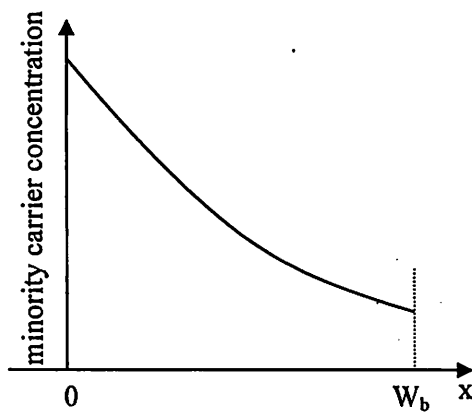

Figure 1.3 Variation of the excess minority carrier concentration in the base.
- d) Fig. 1.3 gives a sketch of the minority carrier concentration in the base layer of a pnp BJT.
Copy Fig. 1.3 and add the correct label on the y-axis (δp_n or δn_p). Use your sketch and the definition of diffusion current to explain how the recombination current can be calculated.